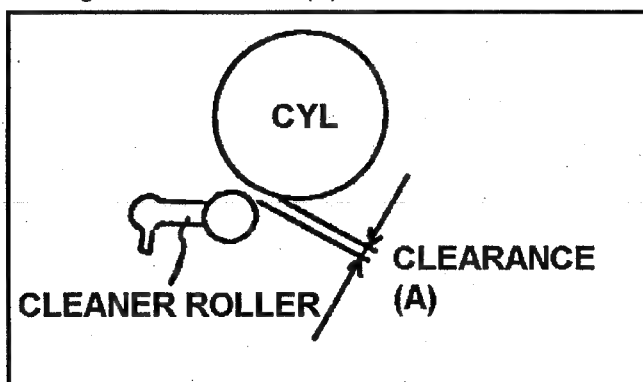

Fig. 6-15-4 Cleaner Roller Position Adjustment
1. Observe the clearance (A) between the Cleaner Roller and the Cylinder Unit and make sure that it is within 1.0 to 1.2mm as shown in Fig. 6-15-4.